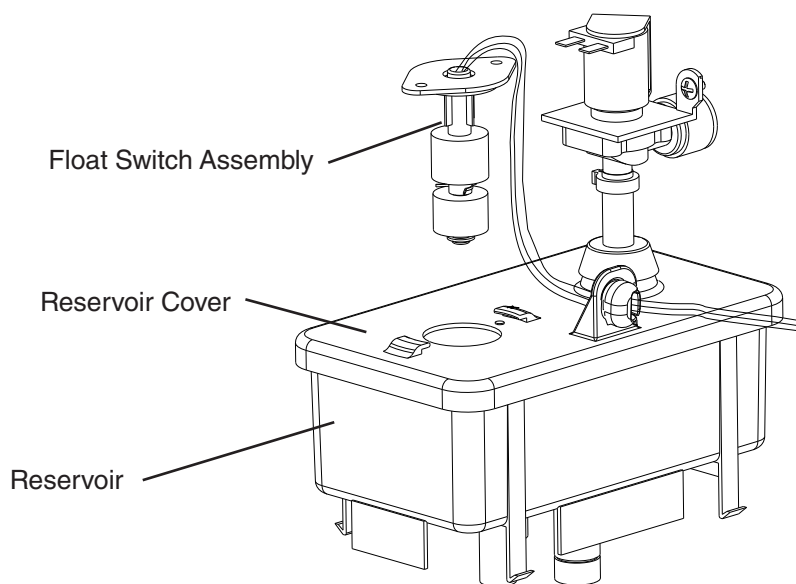

Fig. 7
- 3) Remove FS assembly from the reservoir cover. See Fig. 7.